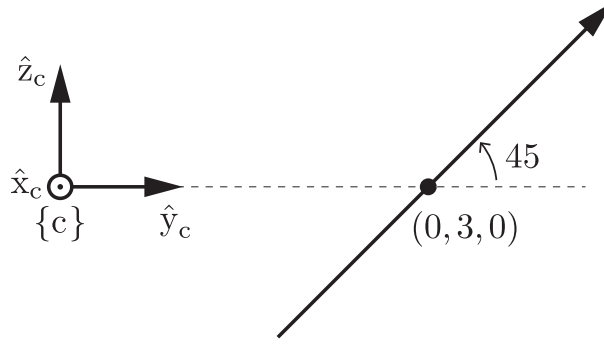

Figure 5: A screw axis in the (\hat{y}_c, \hat{z}_c) plane.
Exercise 8 Figure 5 shows a screw axis in the (\hat{y}_c, \hat{z}_c) plane, at a 45° angle with respect to the \hat{y}_c -axis. (The \hat{x}_c -axis points out of the page.) The screw axis passes through the point $(0,3,0)$.
- Now imagine that the axis in Figure 5 represents a wrench: a linear force along the axis and a moment about the axis (according to the right-hand rule). The linear force in the direction of the axis is 20 and the moment about the axis is 10. What is the wrench \mathcal{F}_c ?